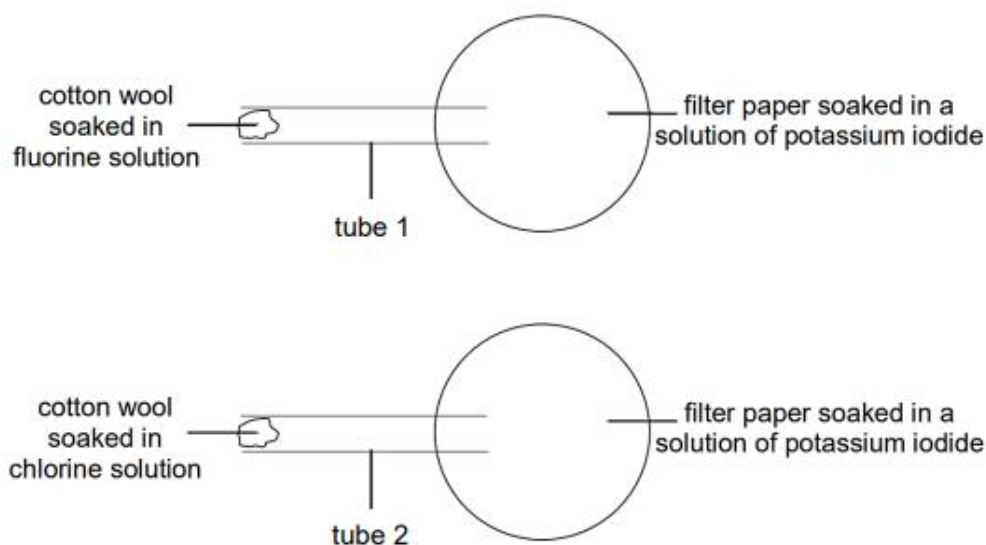

Fig. 4.1
- 4 Fig. 4.1 shows the setup with two tubes, 1 and 2, to investigate the rate of diffusion of gases. Two pieces of cotton wool soaked in fluorine and chlorine solution were placed in one end of tubes 1 and 2 respectively. The solution on the filter papers of both tubes turned brown.